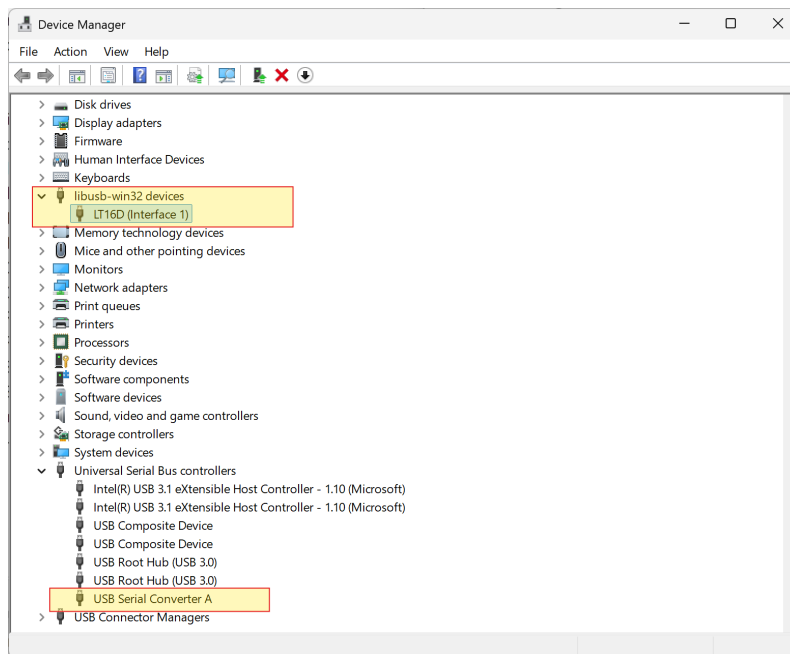

Figure 3.4: LT16M driver configuration in Device Manager
8. In Device Manager, update LT16D (Interface 0) to use USB Serial Converter A, if it is different. For a successful setup, the device will appear in the device manager as Figure 3.4.
1. Open Device Manager on your PC, as seen in Figure 3.4.